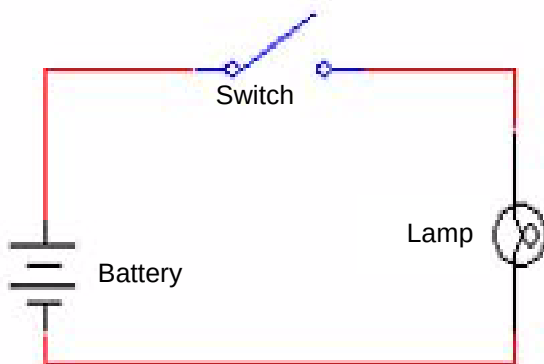

Figure 7.18
- Series circuits are wired so that the current has only one path to follow. If one component in the system fails, the circuit will be broken and whole system will not work. See Figure 7.18.